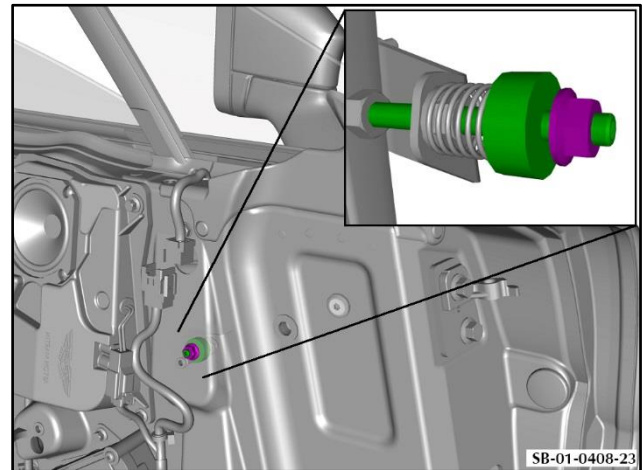

Figure 24
8. Engage the adjuster assembly into the hole in the door (refer to Figure 24).